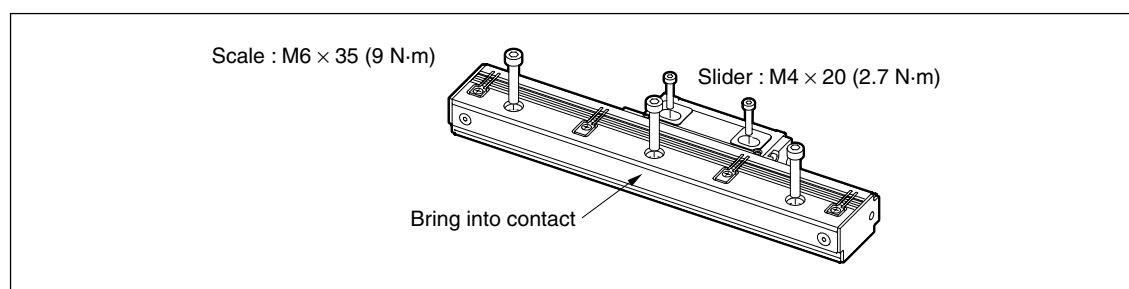

Fig. 2-4
- Loosely turn the mounting screws first. Determine the alignment and then tighten the screws to fasten the scale. (See Fig. 2-4)